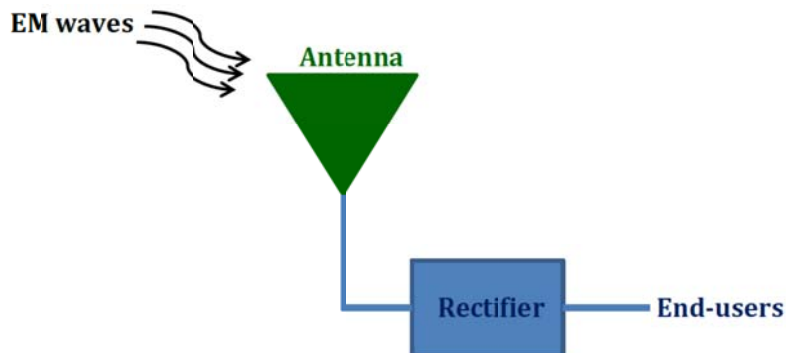

Figure 1: Building blocks of a typical RF energy harvesting system.
Harvesting power from ambient radio frequency (RF) and microwave sources, which are everywhere nowadays, is a green solution for wireless power applications, from recharging batteries for wearable and biomedical implantable devices, small wireless sensors, and Radio-Frequency Identifications (RFIDs), to powering unmanned aerial vehicles. The ambient mobile and wireless networks provide recyclable RF signals, which can readily be used for aforementioned applications. For example, RF signals from Global Positioning Systems (GPSs), nearby mobile phones, Wireless Local Area Networks (WLANs), and many more, are all free sources for energy harvesting systems. Building blocks of a typical RF energy harvesting system are illustrated in Figure 1. Its pivotal component is the antenna. It receives the electromagnetic waves from the available sources in space and delivers to the rectifier block, where the RF signals are converted to DC power.